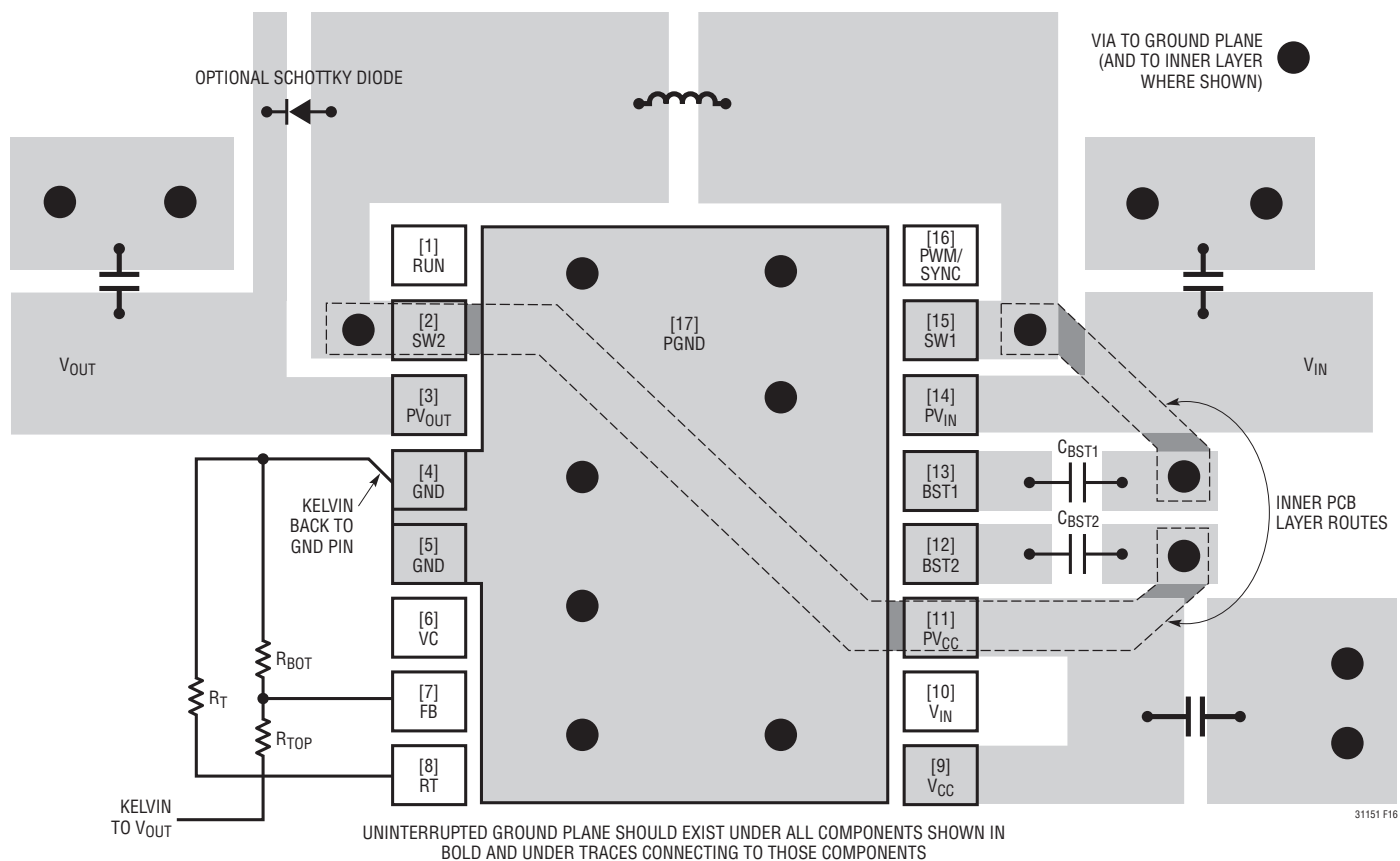

Figure 16. PCB Layout Recommended for the DHD Package
The LTC3115-1 buck-boost converter switches large currents at high frequencies. Special attention should be paid to the PC board layout to ensure a stable, noise-free and efficient application circuit. Figure 16 and Figure 17 show a representative PCB layout for each package option to outline some of the primary considerations. A few key guidelines are provided below:
1. The parasitic inductance and resistance of all circulating high current paths should be minimized. This can be accomplished by keeping the routes to all bold components in Figure 16 and Figure 17 as short and as wide as possible. Capacitor ground connections should via down to the ground plane by way of the shortest route possible. The bypass capacitors on PV_{IN} , PV_{OUT} and PV_{CC}/V_{CC} should be placed as close to the IC as possible and should have the shortest possible paths to ground.
5. To prevent large circulating currents in the ground plane from disrupting operation of the LTC3115-1, all small-signal grounds should return directly to GND by way of a dedicated Kelvin route. This includes the ground connection for the RT pin resistor, and the ground connection for the feedback network as shown in Figure 16 and Figure 17.